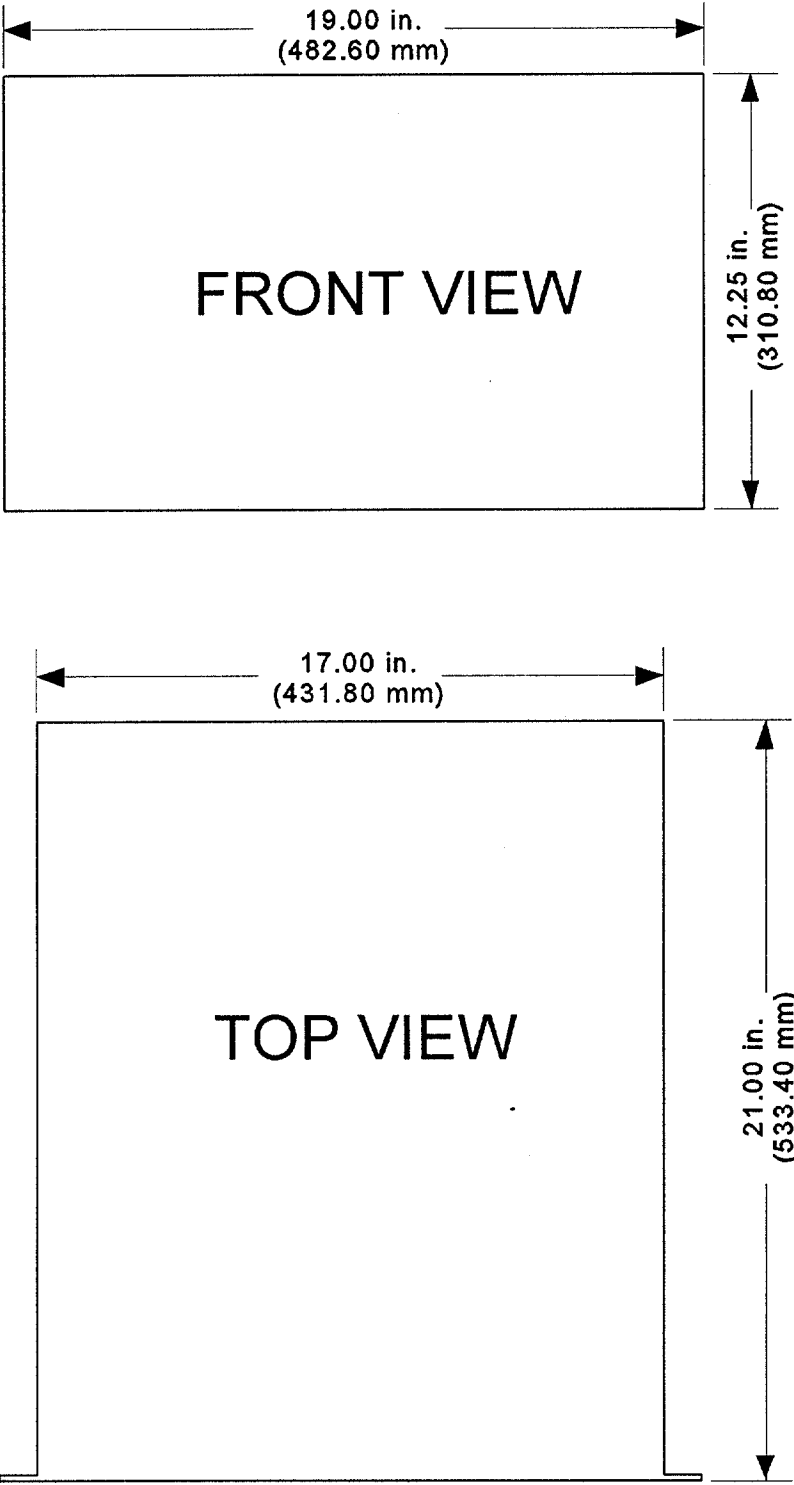

Figure 2-10. Model 1751SLE Installation Dimensions
The Model 1751SLE AC Power Source is designed for installation in a standard 19" (483 mm) instrument rack (refer to Figures 2-10 through 2-12 for outline drawings, mounting dimensions and the location of controls and connectors).
1. Before installing the power source, verify that the input and output voltage ranges are compatible with the available utility power and the output voltage application. Refer to Figures 2-10 and 2-11, Table 2-1, and the unit serial number tag for model number information.